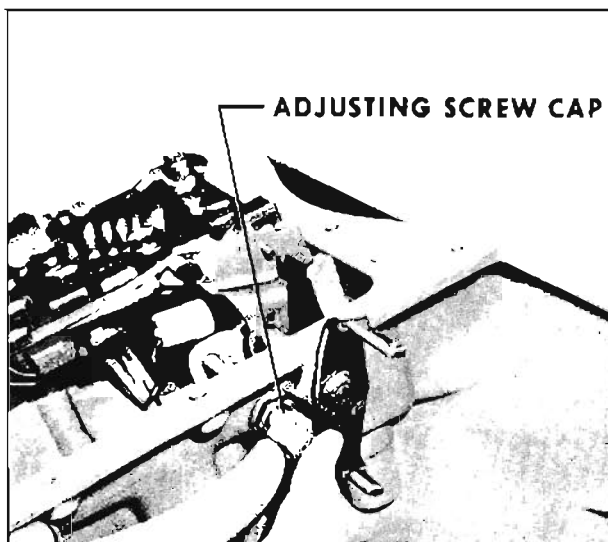

Fig. 6-449 Adjusting Screw Cap
3. Install adjusting screw cap. (Fig. 6-449)